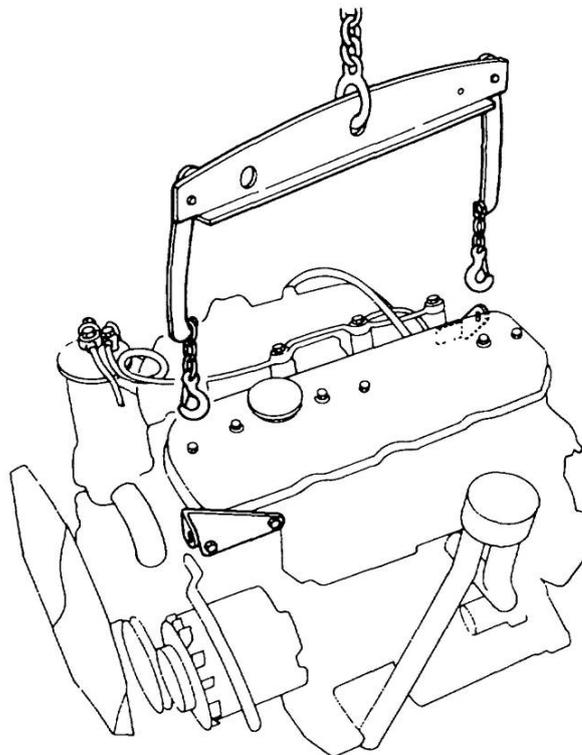

Figure 11 Removal of the Engine
- aa. Position the overhead lifting equipment over the engine (Figure 11) and secure the chains to the engine lifting brackets.